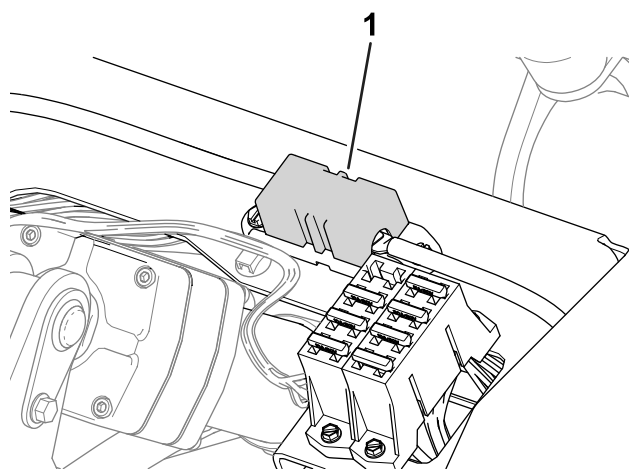

Figure 45
- The fuses for the right wheel motor (60 A) are located under the seat (Figure 45).